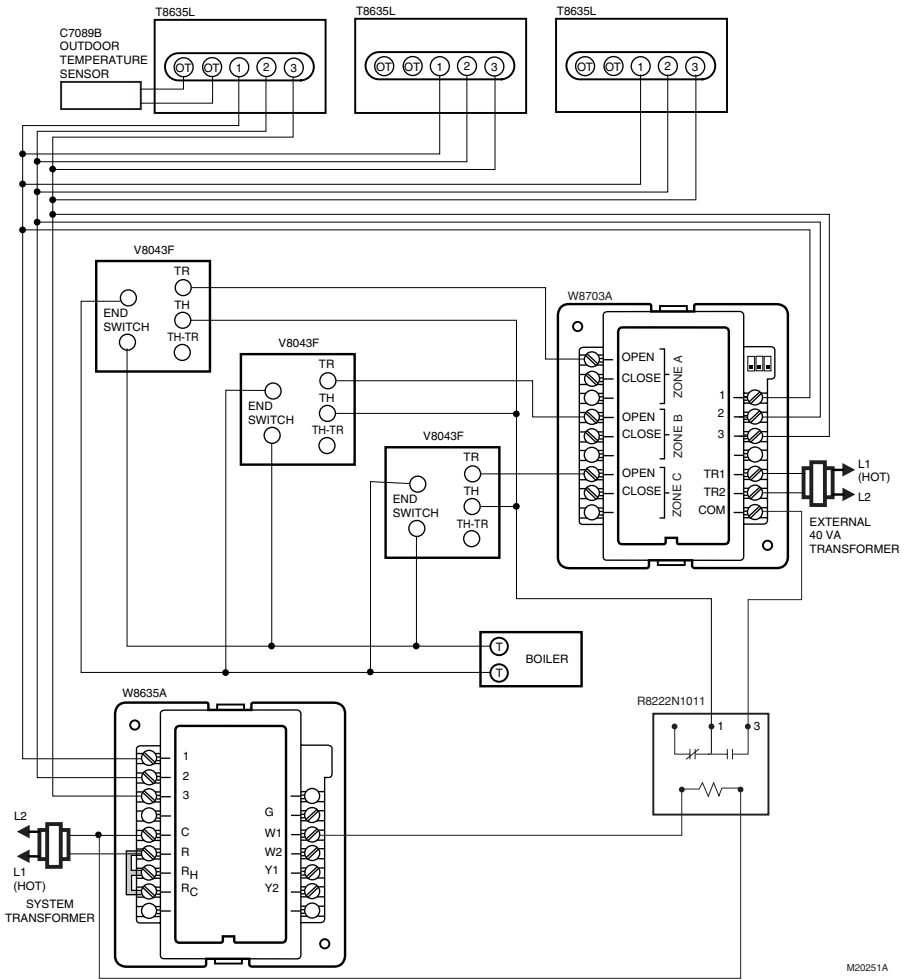

Fig. 5. Hydronic heat with V8043 zone valves and non-zoned air conditioning wiring diagram.
- See Fig. 5 and 6 to wire hydronic heat with V8043 zone valves.
Networked Zoning can control a hydronic system using Honeywell V8043 or similar zone valves. The zone valve end switches are wired in parallel and connected to the Aquastat on the boiler. A relay is used to prevent the dampers from opening when the heating system is idle. See Fig. 5.